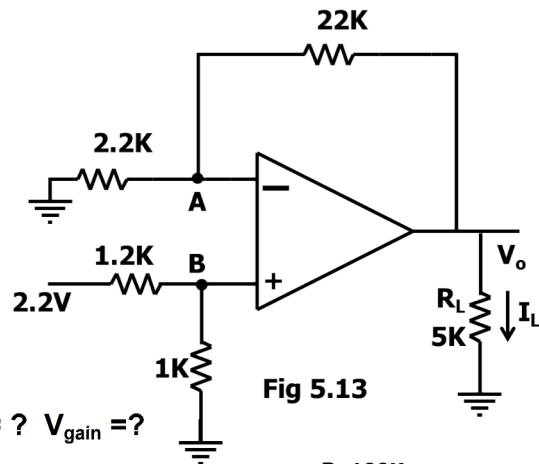

Fig 5.13
**Problem 5: For the circuit in fig 5.13, what is  $V_0$ ? What is the load current?**